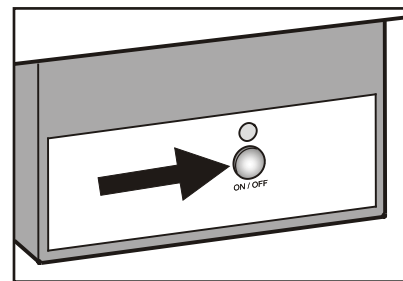

Figure 27
- Press the button on the ice maker housing (**Figure 27**) for approx. 3 seconds. The LED above the button starts blinking.
The ice maker can also be turned on and off by pressing the "On/Off" button at the ice maker housing for approximately 1 second (**Figure 27**).